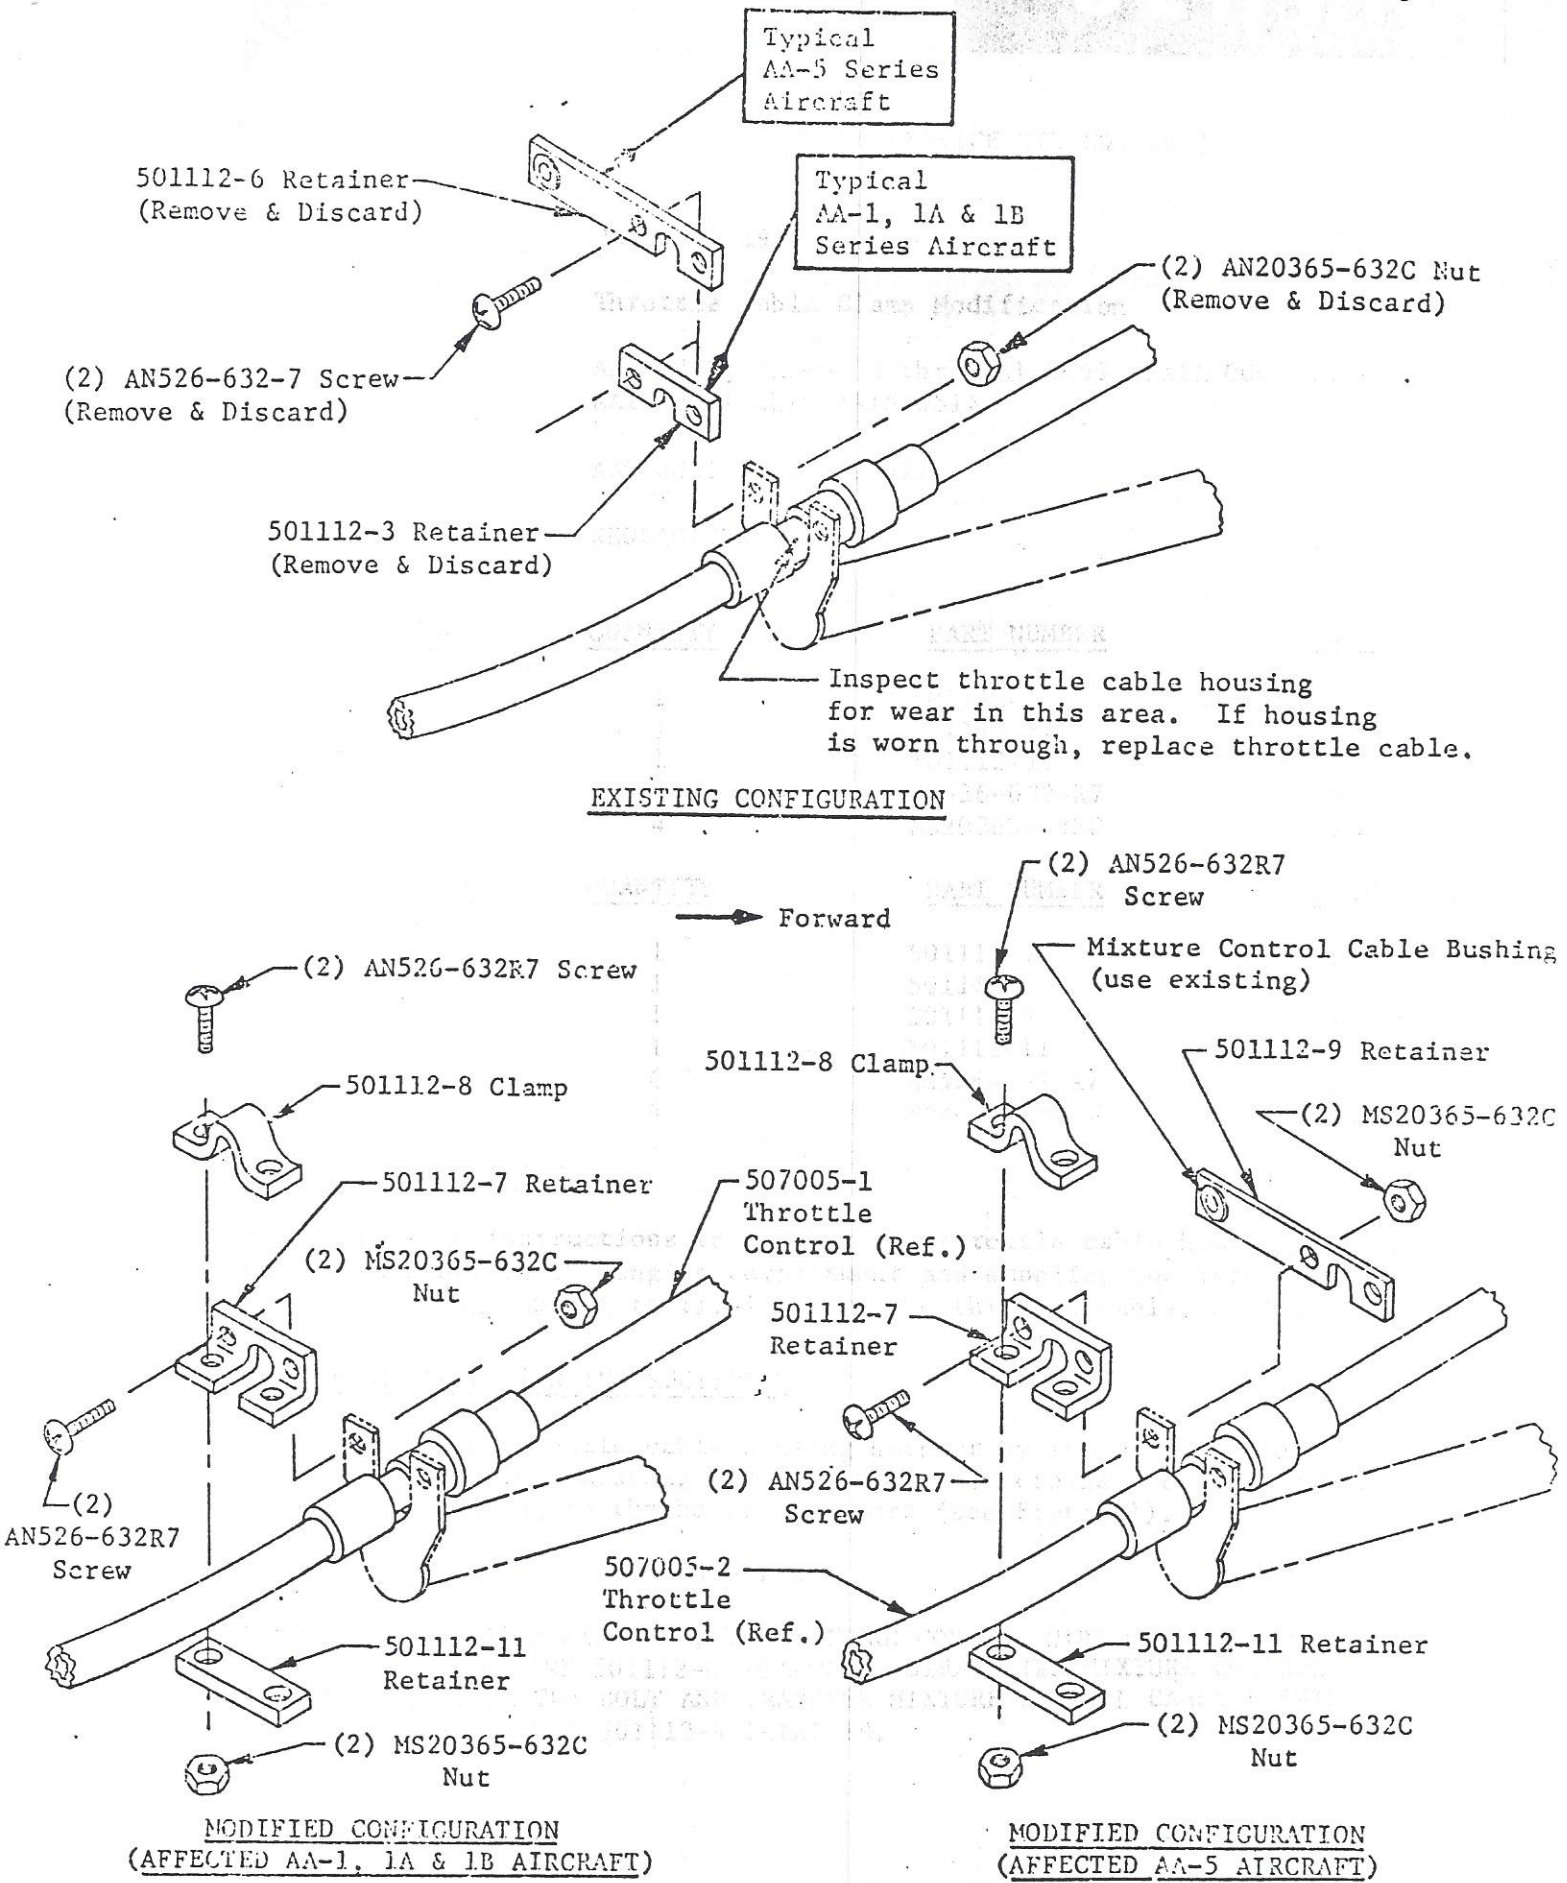

Figure 1. Throttle Cable Clamp Modification
2. Remove the discard the existing screws, nuts, and retainers that attach the throttle cable housing to the housing support (see Figure 1).
3. Inspect the throttle cable housing for wear in the support area. If the throttle cable housing is worn through at any area on the locking groove, the throttle cable must be replaced. If replacement is required, see Figure 1 for throttle control part numbers.
4. Install the modified retainers and clamp as indicated in Figure 1. On the affected Model AA-5 aircraft, reconnect the mixture control wire to the carburetor and rig per the applicable Service Manual.